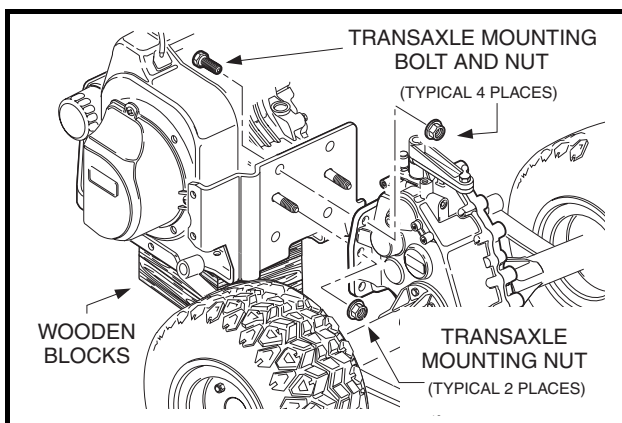

Figure 16-34 Transaxle Mounting
- 22.1. Remove four transaxle mounting bolts (one at each corner of the transaxle mounting plate) (**Figure 16-34, Page 16-13**).